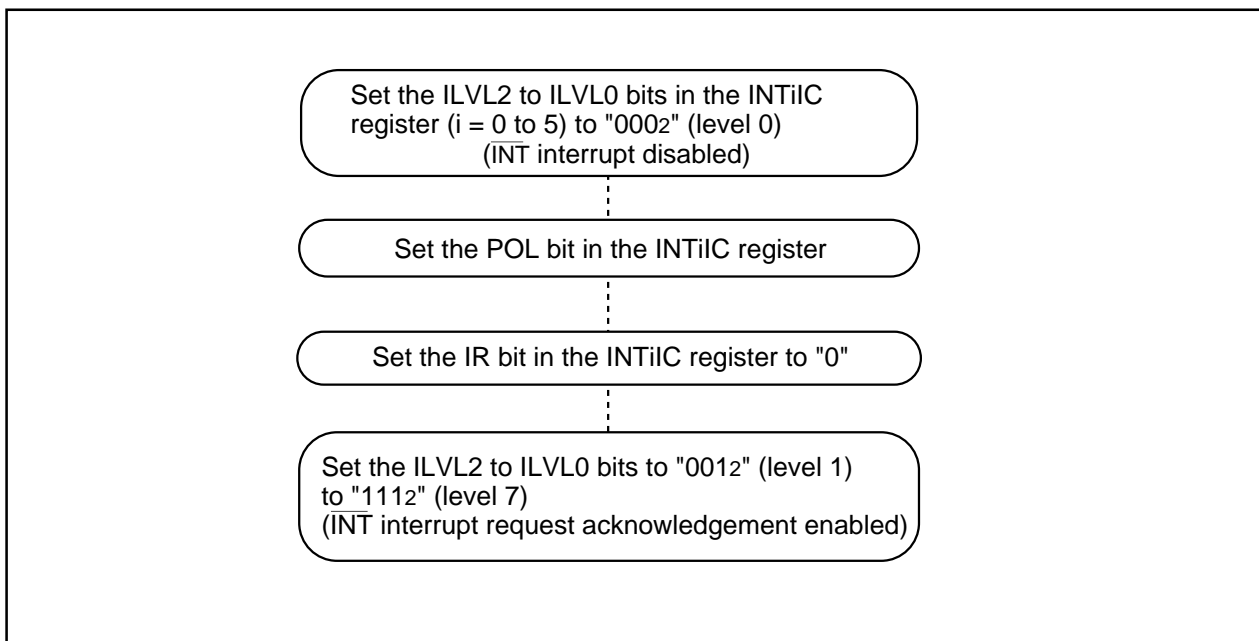

Figure 27.1 Switching Procedure for  $\overline{\text{INT}}$  Interrupt
- The IR bit may change to "1" (interrupt requested) when switching the polarity of the  $\overline{\text{INT}}_0$  to  $\overline{\text{INT}}_5$  pins. Set the IR bit to "0" (no interrupt requested) after selecting the polarity. Figure 27.1 shows an example of the switching procedure for the  $\overline{\text{INT}}$  interrupt.